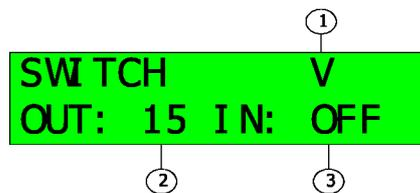

Figure 6: I/O menu
- d) Set input channel to be “OFF” in the same way as selecting input channel. Then finish to off output channel 15, and the LED displays as the following figure 6.